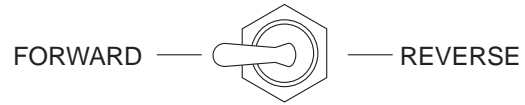

Figure 24. Direction Control Switch (FORWARD)
4. Place the **direction control switch** in the **FORWARD** position (Figure 24).